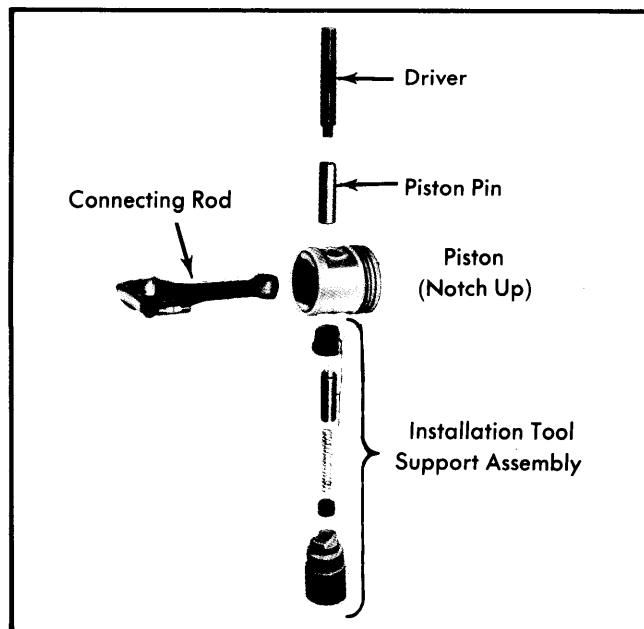

Fig. 8 Piston Pin Removal & Installation
1) Piston pin is selective press fit in connecting rod. Using a suitable piston pin pressing tool set and a press, remove piston pin and separate piston and rod. See Fig. 8.
and 7. Lubricate piston pin and press into piston and rod using tool set and press used during removal. See Fig. 8.